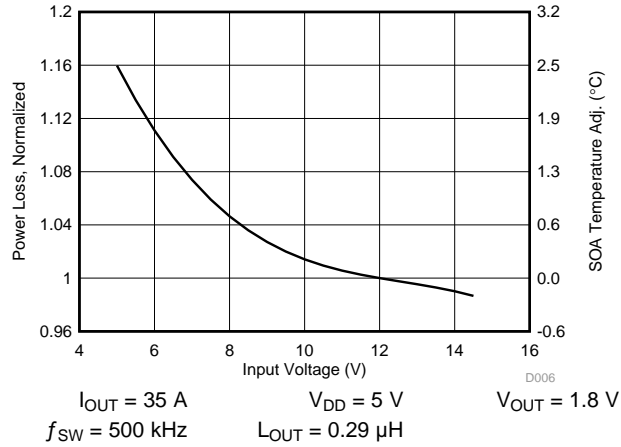

Figure 9. Normalized Power Loss vs Input Voltage
- Normalized power loss for input voltage  $\approx$  0.99 (Figure 9)
- SOA adjustment for input voltage  $\approx$  -0.12°C (Figure 9)